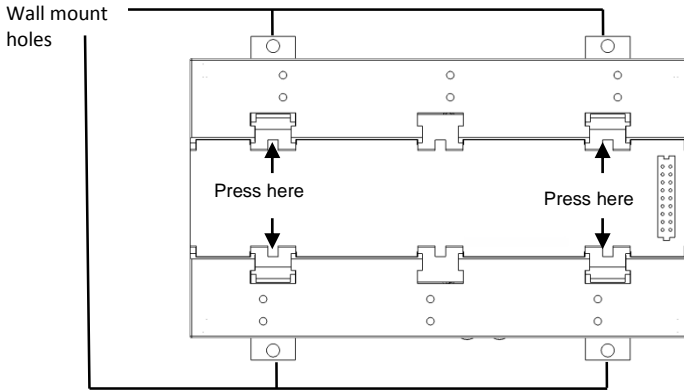

Figure 4: Clips in Open Position
- 3 Position the device on the wall with the open clips, as shown in Figure 4. Mark points through the holes of the clips and drill holes using a 4mm diameter drill bit.